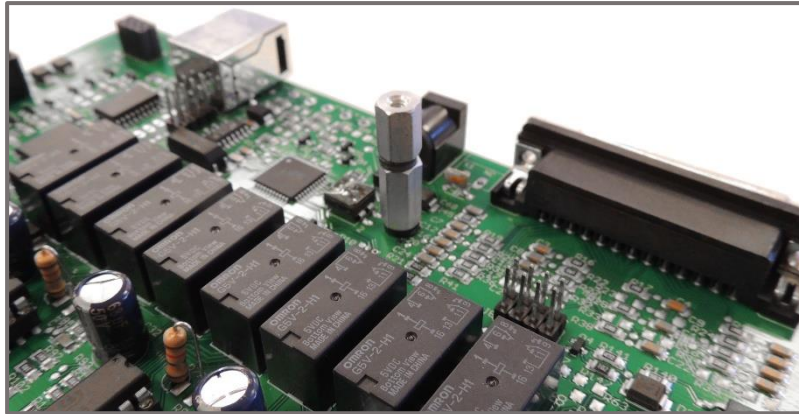

Fig. 7 Jack screw installed in hex standoff.
Step 9: Screw the included jack screw and fiberglass washer into the existing standoff on the driver board as shown in Figure 7. *Note: If the driver board has a relay board installed, omit the washer.*